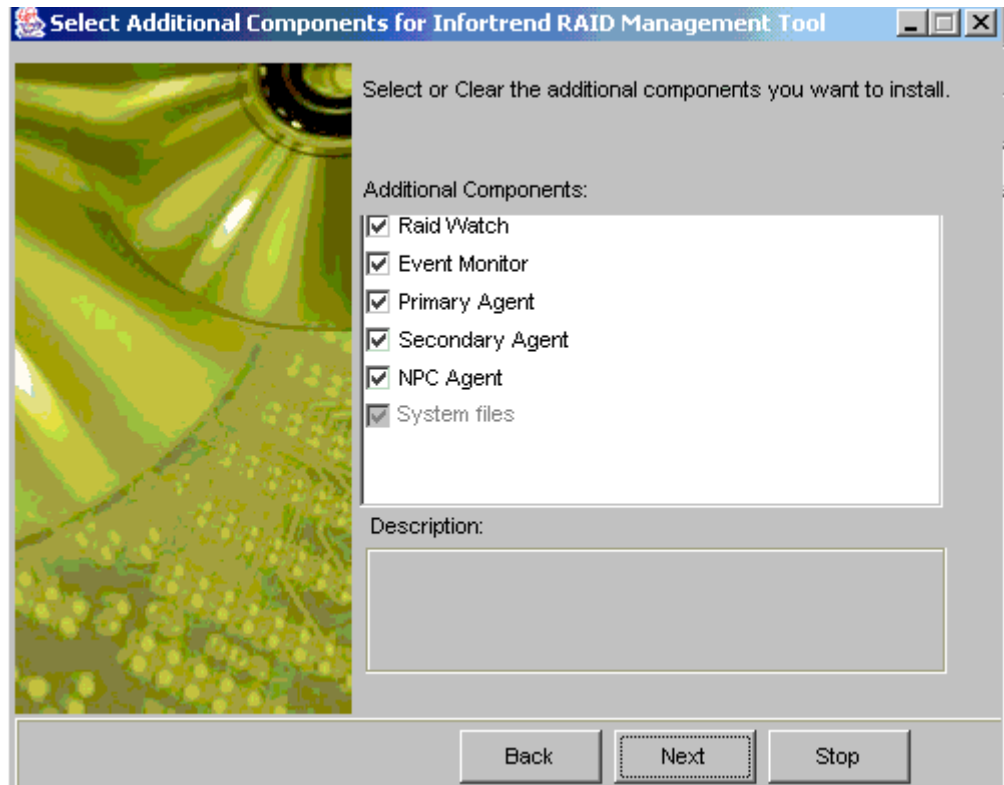
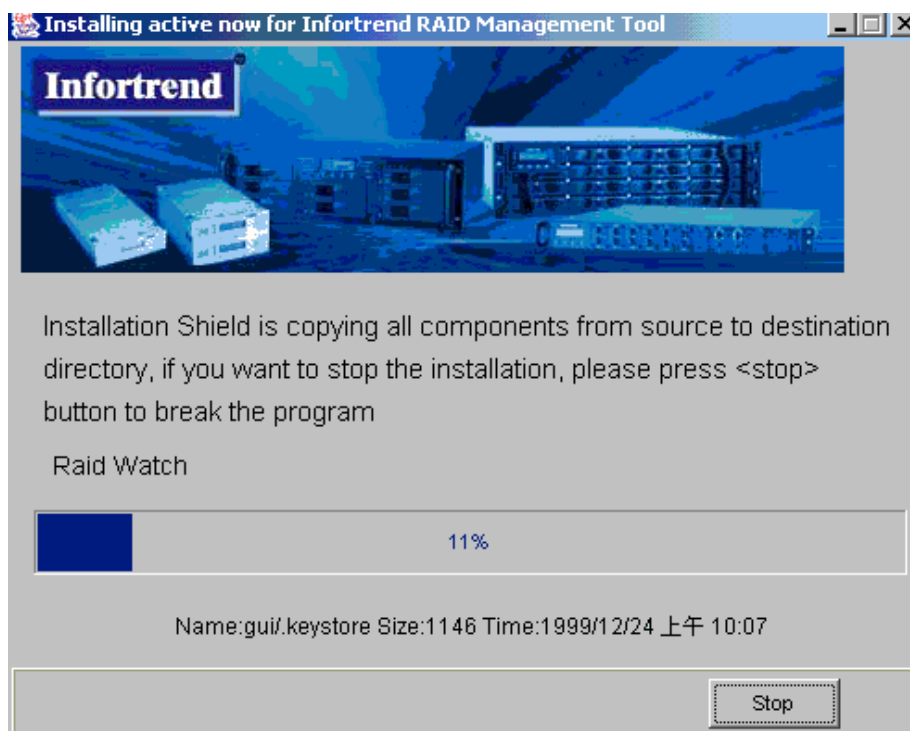

Figure 2-7: Additional Components
Figure 2-8: Installing Active
Step 2. Once you have selected the directory in which you wish to install the *In-Band* components and if you wish to continue installing the *In-Band* components, select the “*Next*” button and the screen shown in *Figure 2-7* will appear.
Step 3. From *Figure 2-7* above, additional components can be selected. The default option selects all the additional components, if you wish to de-select the additional components, then use your mouse to de-select those components you do not wish to install.
- Step 4.** If the “*Next*” button from *Figure 2-7* was selected, the Install Active window shown in *Figure 2-8* will appear. If you wish to stop the installation procedure, then click the “Stop” button. If you wish to continue installing the In-Band components, allow the installation shield to continue the installation process uninterrupted.
Step 3. Once you have selected the directory in which you wish to install the *Applet* components and if you wish to continue installing the *Applet* components, select the “*Next*” button and the screen shown in *Figure 2-8* will appear.